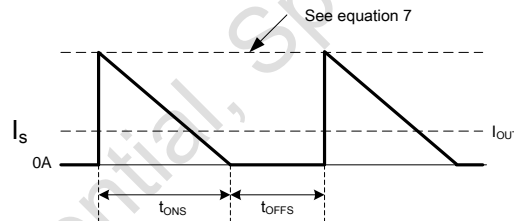

Figure 4. Secondary Current Waveform
The GP4504 is designed to work in constant current (CC) mode. Figure 4 shows the secondary current waveforms.